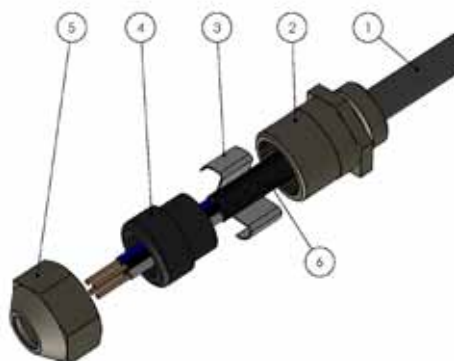

Fig. 30: Assembly of a cable gland
6. Assemble the cable gland according to Fig. 30.
The spring of the cable gland (Fig. 30/3) has to lie on the naked screen (Fig. 30/6) of the cable. For assembly compress the spring (Fig. 27/3) slightly and insert in cable gland casing (Fig. 27/2)